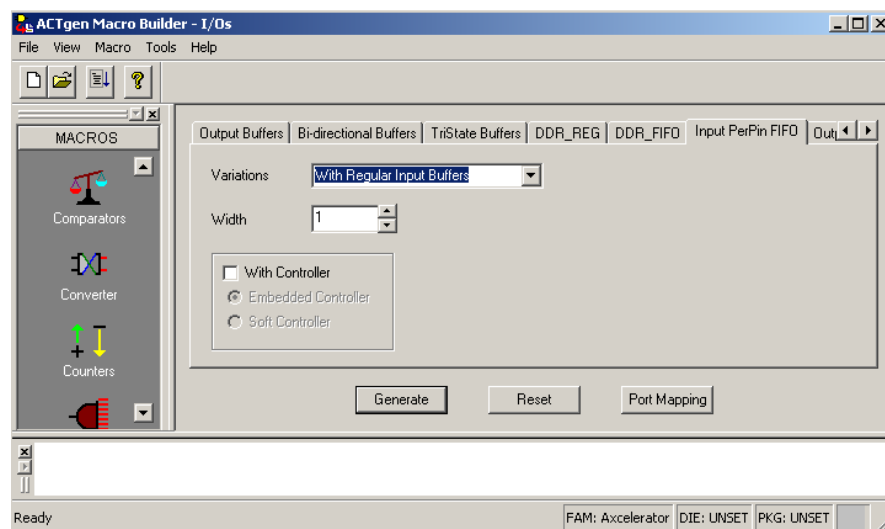

Figure 9 • Choosing Input PerPin FIFO (With Regular Input Buffer and Without Controller)
- Select the Input IOFIFO tab (see Figure 9).